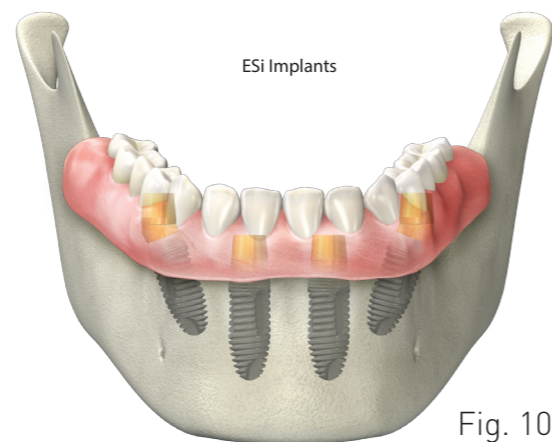

Fig. 10
- Position denture precisely above healing cap and confirm occlusion prior to acrylic hardening. (Fig. 10)